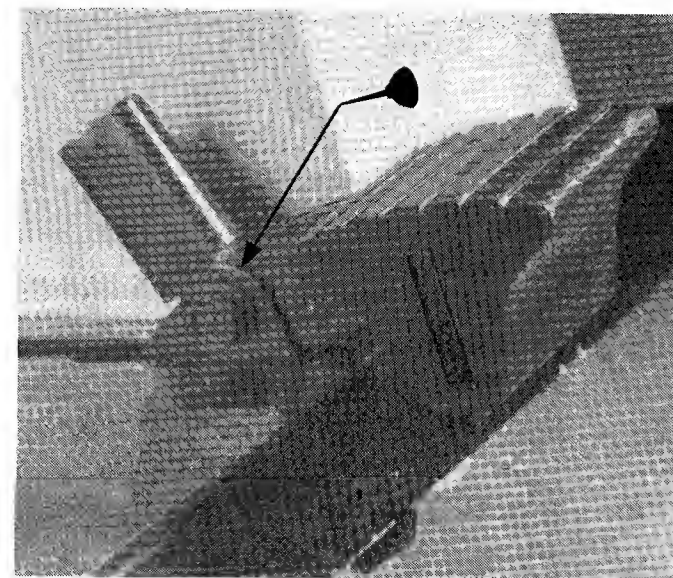
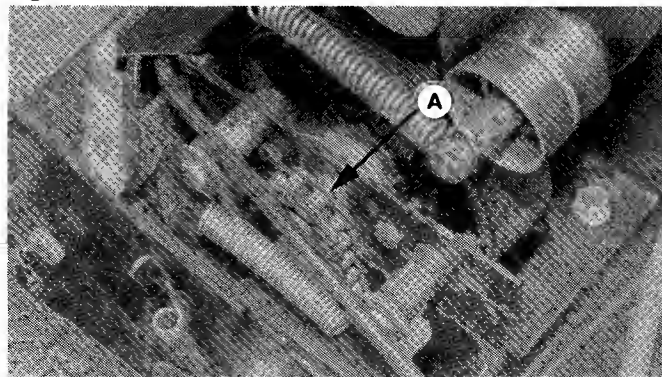

Figure 4. Lube Brake Pedal Pivot Points
Figure 8. Chain
12. **Before leaving operator's position**, set the parking brake and disengage the mower PTO. (The parking brake is shown set in figure 4.) Set the engine speed control to SLOW and allow the engine to idle for 20 seconds. Turn the key to OFF and remove it. Wait for moving parts to stop.
1. With an oil can, apply a few drops of oil to points indicated with oil can in figures 4 through 11. Oil the drive chain (figure 8) with an approved chain lubricant.